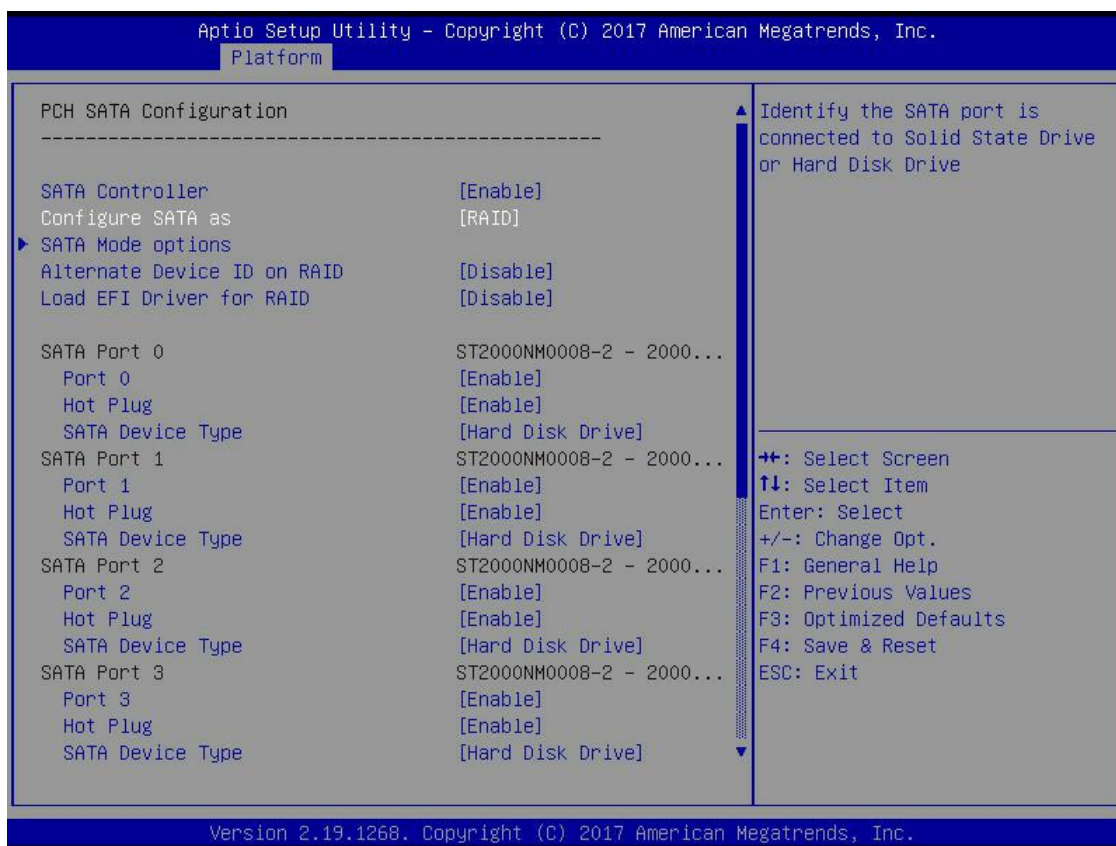

Fig. 6.1
- Move to PlatForm interface-->PCH Configuration-->PCH Sata Configuration-->Configure SATA as. Configure SATA to RAID mode, as shown in figure 6.1